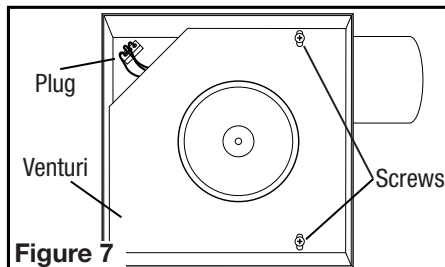
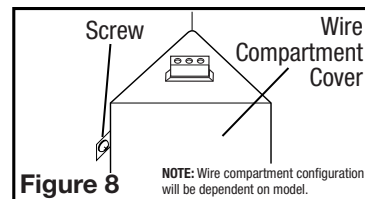

Figure 7
Figure 8
- Internal Wire Compartment:** Remove the screws holding the blower assembly in place and lift assembly out of housing (**Figure 7**). Remove the wire compartment cover screw and place the cover in a secure place (**Figure 8**).